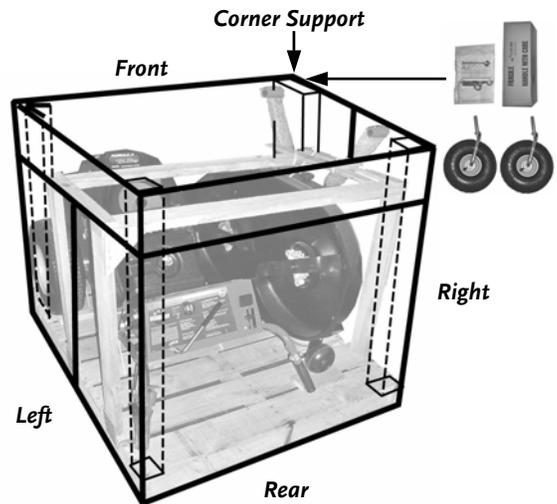

Figure 2a
2. Remove the Small Parts/Product Package, Caster Wheels, and Mulching Kit from the Right Front Corner Support (**Figure 2a**).